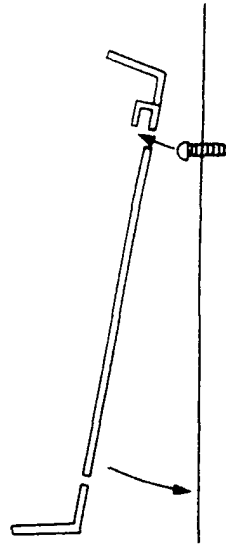

Figure 1-10 Attaching the KSU to the Wall Mount Template
2. While holding the ESF-C-10 KSU, hang the upper two openings that are located in the KSU base over the wall mount template. (Refer to Figure 1-10 - Attaching the KSU to the Wall Mount Template.)